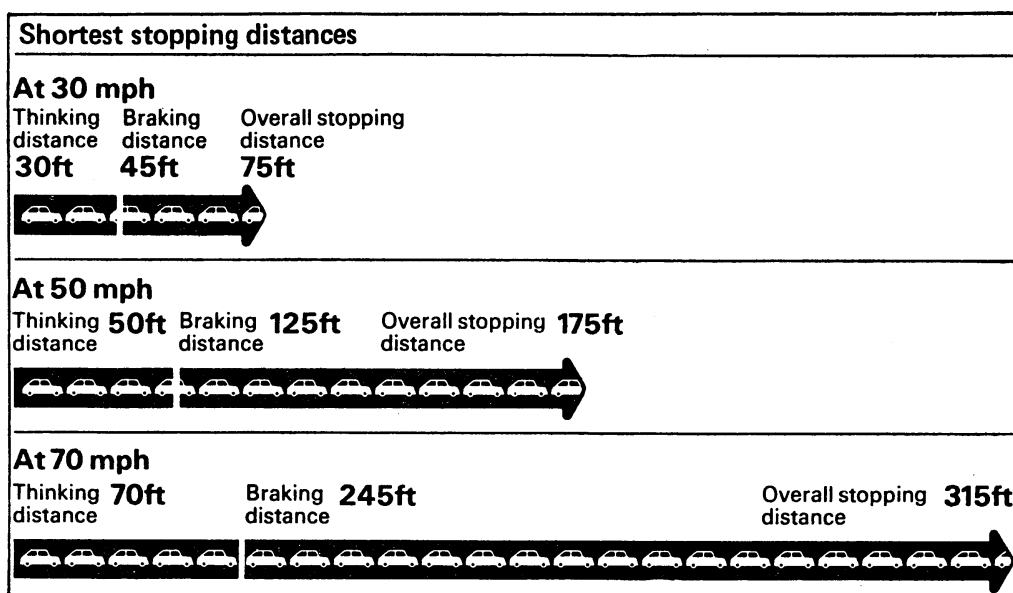

Figure 4 Shortest stopping distances (from Highway Code)
Figure 4 is taken from the Highway Code. It shows the distances needed to stop when travelling at different speeds. The distances are for a well maintained car in good weather conditions.
- 14 The stopping distances in Figure 4 are for an alert driver, in a good car with good brakes and tyres, on a dry road. What difference will each of the following make to: (a) the thinking distance; (b) the stopping distance?